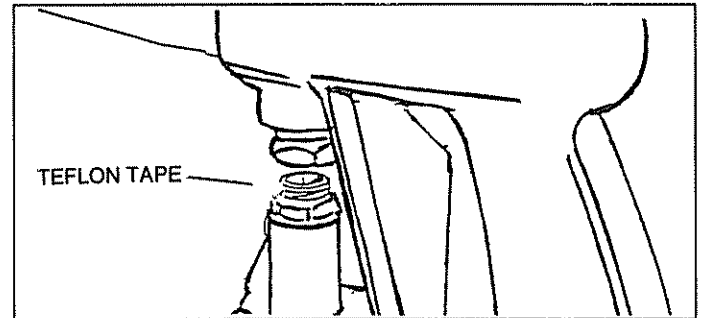

FIG. 7
- Attach fitting with teflon tape to gun and wand assembly (Fig. 7). You may want to spin gun. Tighten with 7/8" wrenches or adjustable wrenches.